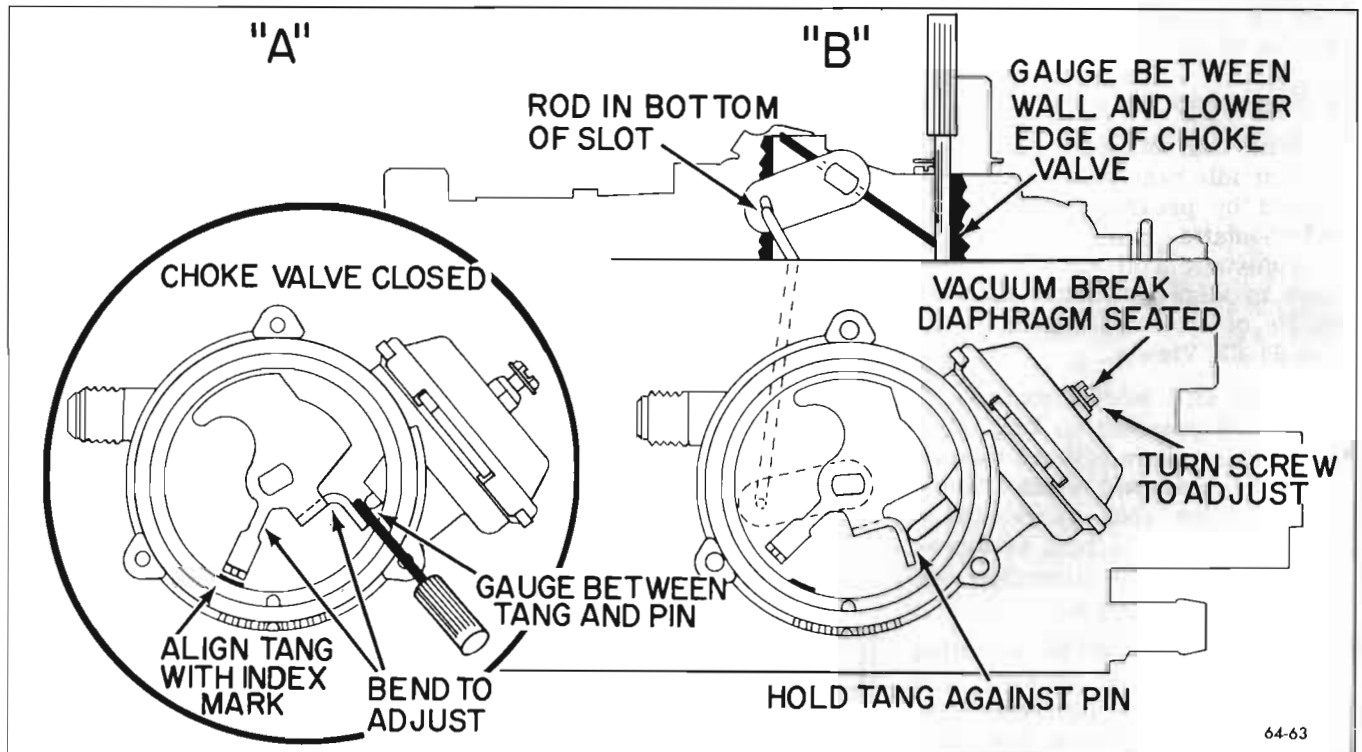

Figure 64-63—Vacuum Break Adjustment
1. With cam follower on high step of fast idle cam, hold choke valve closed by pressing down on the thermostatic coil tang. Bend thermostatic coil tang as necessary to align with index mark on inside of choke housing. See Figure 64-63, View A.
2. While still holding choke valve closed by pressing on tang (as in Step 1), measure between vacuum break pin and tang which it contacts, using .100 gauge. Bend vacuum break pin tang as necessary to obtain this dimension. See Figure 64-63, View A.
slack, measure between lower edge of choke valve and wall, using .230 gauge. Adjust screw as necessary to obtain this dimension. See Figure 64-63, View B.